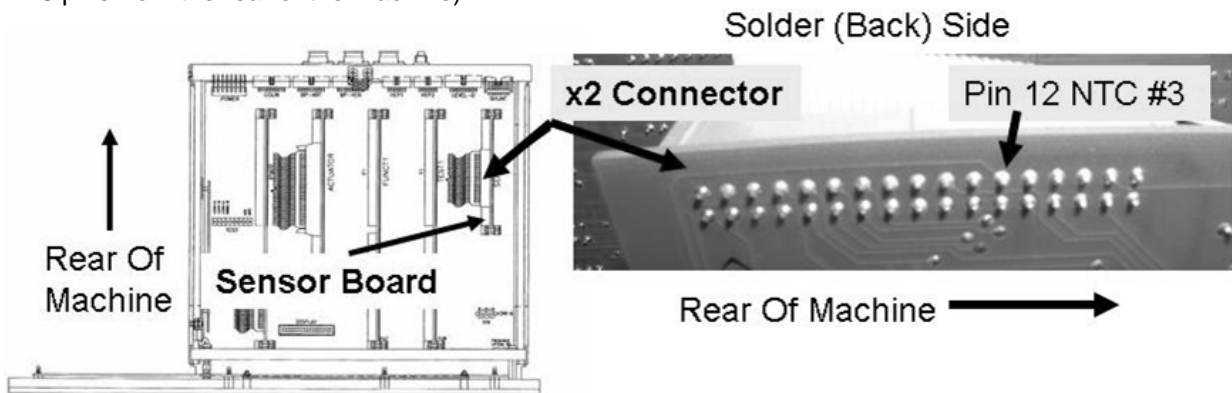

Figure 53 – NTC #3 Checks
- f) Per **Figure 53** below, measure at the solder side of Sensor Board's 'X2' connector at *pin 12* (top row, 6 pins from the rear of the machine).